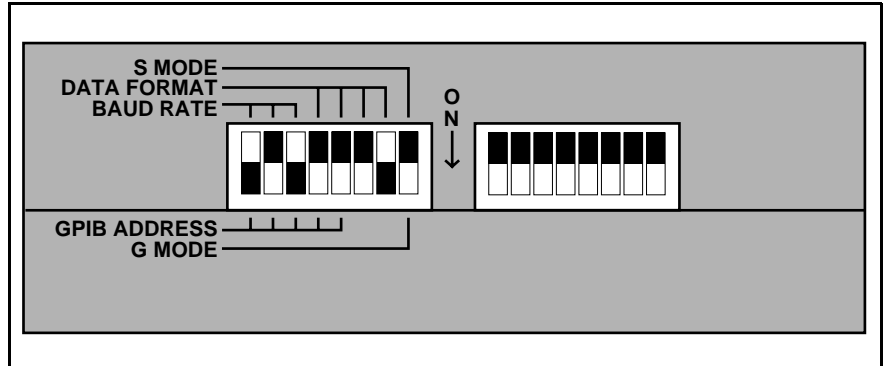

Figure C-1. GPIB-232CT-A Switch Settings
Step 8. Set switches on the GPIB-232CT-A as shown in Figure C-1.